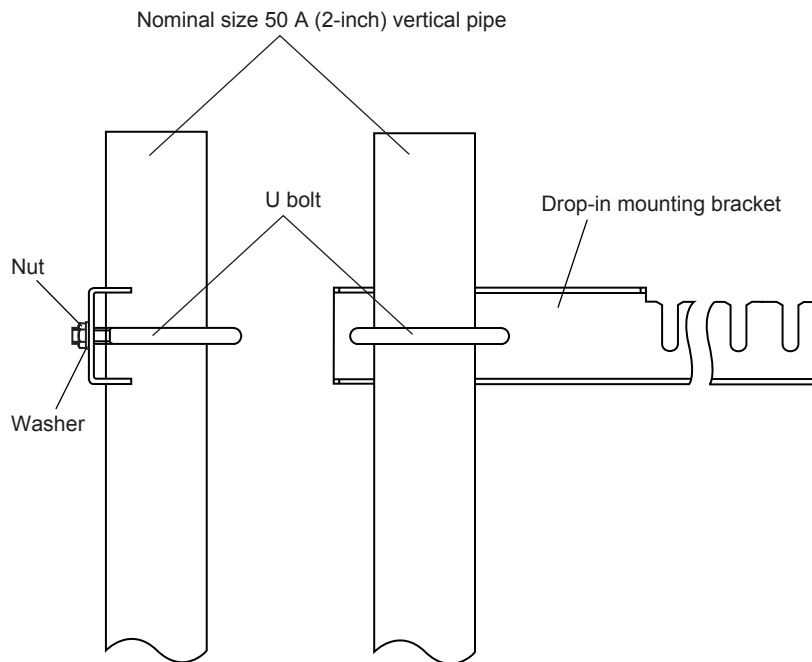

Figure 3.2 Attaching the drop-in mounting bracket
- (1) Attach the drop-in mounting bracket to a sufficiently strong, (2-inch pipe), as shown in Figure 3.2.